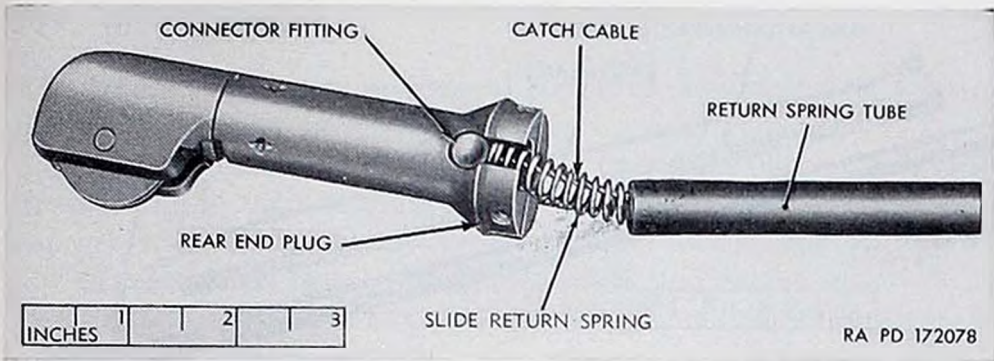
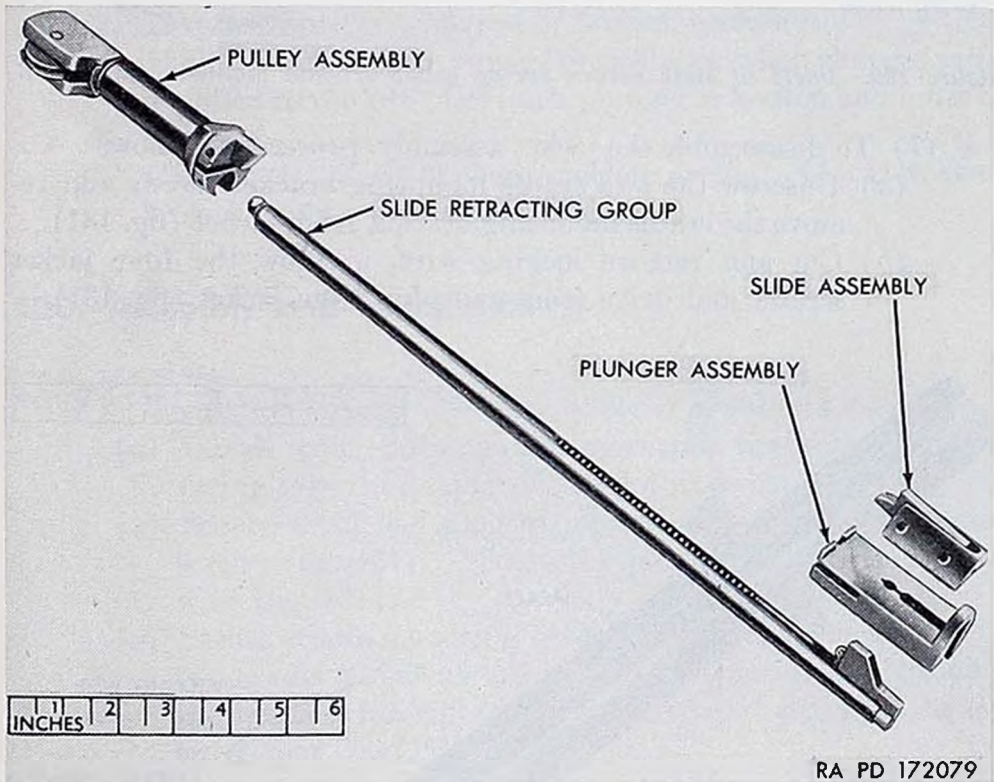

Figure 128. Disengaging catch cable—20-mm manual charger M6.
Figure 129. Slide, plunger, and pulley—20-mm manual charger M6
- (2) Disengage connector fitting of charger cable from its seat in rear end plug (figs. 65 and 127). Disengage connector fitting of catch cable from its seat in the rear end plug (fig. 128).
- (3) Pull charger cable out.
- (4) Press slide assembly to the rear and remove it from plunger assembly (fig. 129).
- (e) Slide return spring tube on shaft of guide so that slots aline, as shown in figure 129.
- (f) Compress the slide return spring nearest the large connector fitting with pliers and position large connector fitting in its seat in the rear end plug (fig. 128). Release grip, allowing catch cable to seat in slot in rear and plug (fig. 128).
- (g) Tap return spring tube into slot in rear end plug (fig. 128). Aline guide and pulley assembly.
- (3) Assemble plunger assembly on return spring tube so that guide fits into slot in plunger assembly (fig. 129).
- (4) Press slide assembly against guide and position slide assembly on plunger assembly so that slide latch points towards pulley assembly (fig. 129).